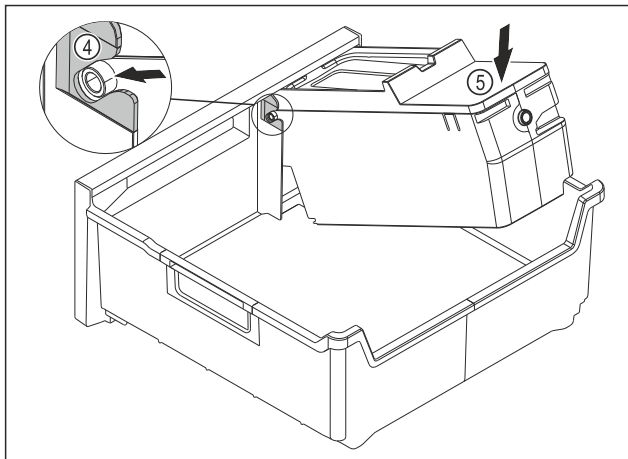

Fig. 81
- ▶ Installing the EasyTwist-Ice body: Push the axes for the EasyTwist-Ice body into the guides Fig. 81 (4).
- ▶ Press the EasyTwist-Ice body Fig. 81 (5) down at the back.